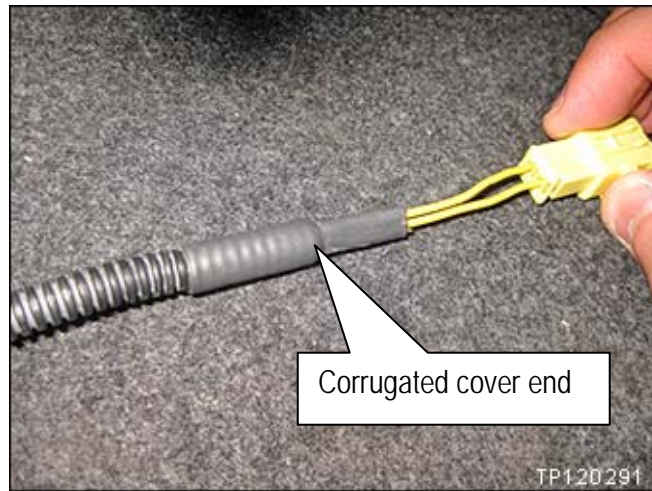

Figure CR4
4. Remove / pull off the corrugated cover end (see Figures CR4 and CR5).